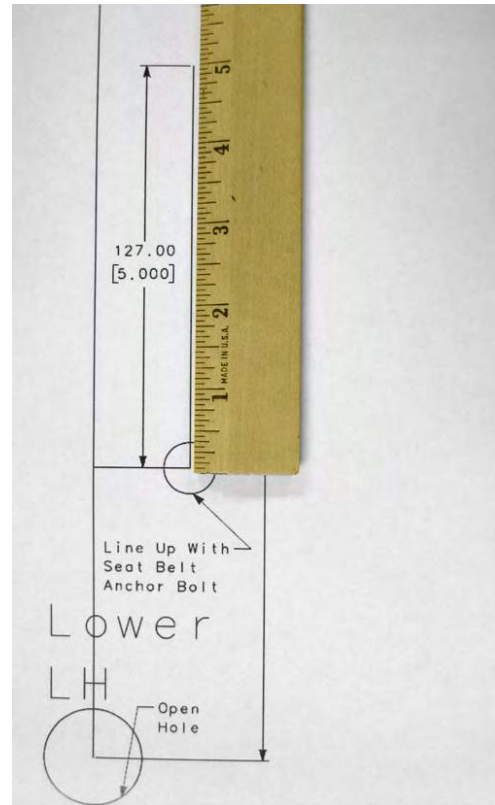

Figure 11-1
2. To confirm the scale, measure the 5-inch reference line (see Figure 11-1).
3. If the reference line measures 5 inches, proceed to item 4 below. If the reference line does not measure 5 inches: Divide 5 by the measured length of the line. Multiply the print scale by the result, and reprint using the adjusted print scale. Measure the 5-inch reference line to confirm.